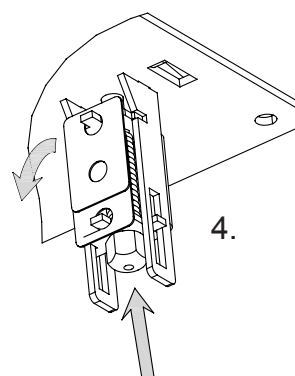

Fig. 15 Change the fuse in big manual fire damper
4. Push the knob so the spring is pressed with enough power to replace the fuse. (Fig. 15)